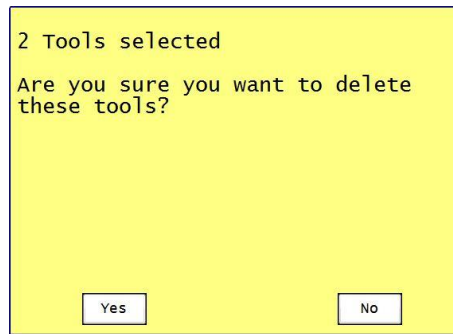

Figure 3-34. Tool Deletion Confirmation
4. Press Delete Selected Tools. A warning box appears, Figure 3-34.